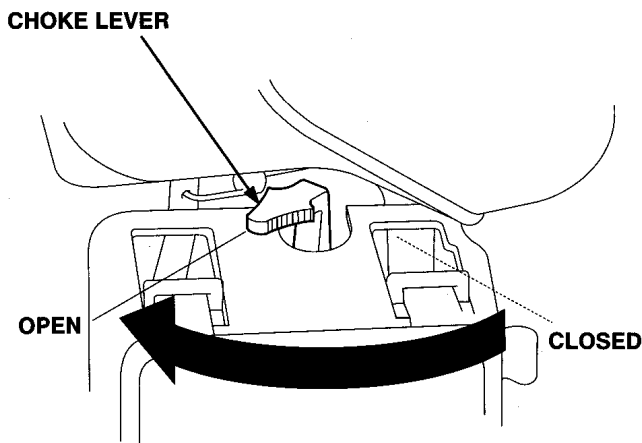

Figure 15. Choke Lever (Open)
8. If the engine has started, slowly return the choke lever to the **OPEN** position (Figure 15). If the engine has not started, repeat steps 1 through 7.